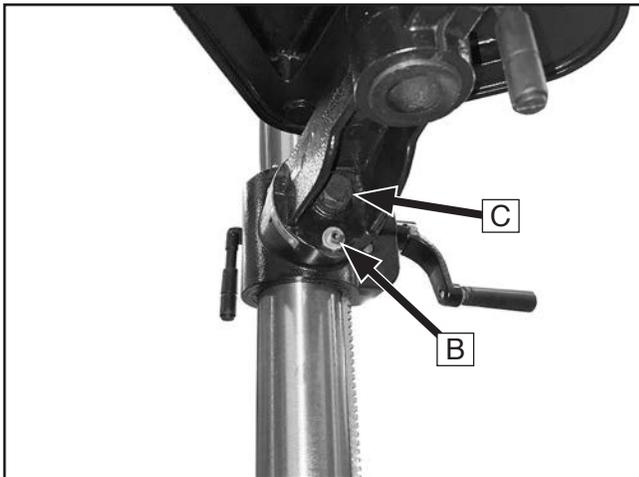

Figure 25. Table tilt components (Model T34610 shown).
2. Tighten the cap screw (see **B** in **Figure 25**) to pull locking taper pin out of table bracket.
3. Loosen the hex bolt (see **C** in **Figure 25**) to tilt the table. Only loosen the hex bolt slightly, otherwise the table assembly will separate from the column and fall.
4. Tighten the hex bolt (see **C** in **Figure 25**).
- If returning table tilt to 0°, install taper pin assembly (see **B** in **Figure 25**) and loosen cap screw to secure. You may need to tap assembly with soft mallet to fully seat taper pin.